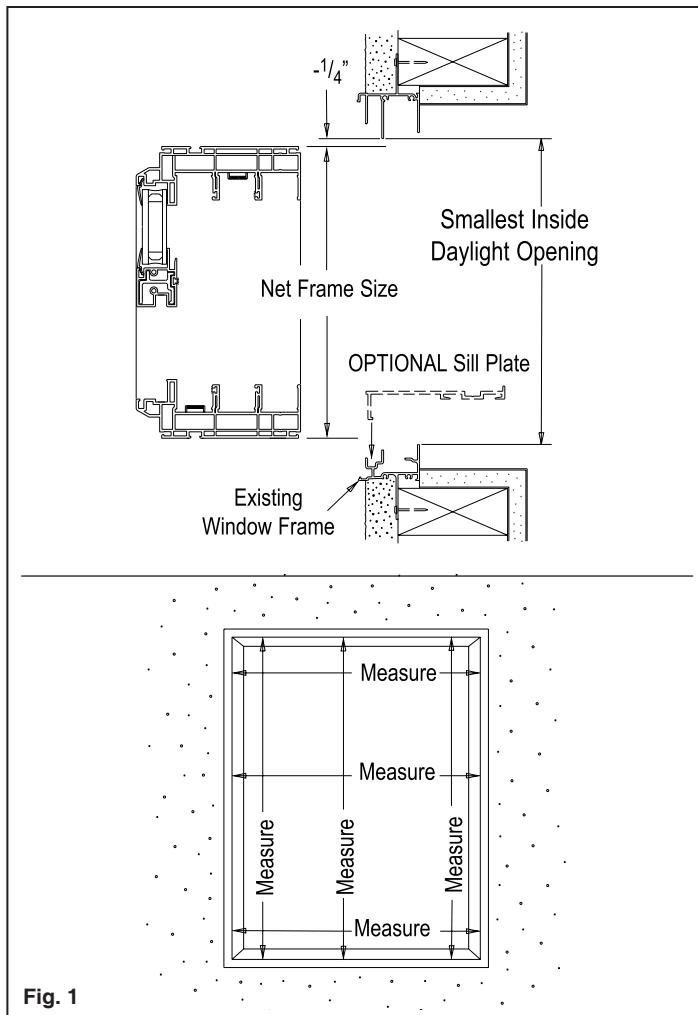
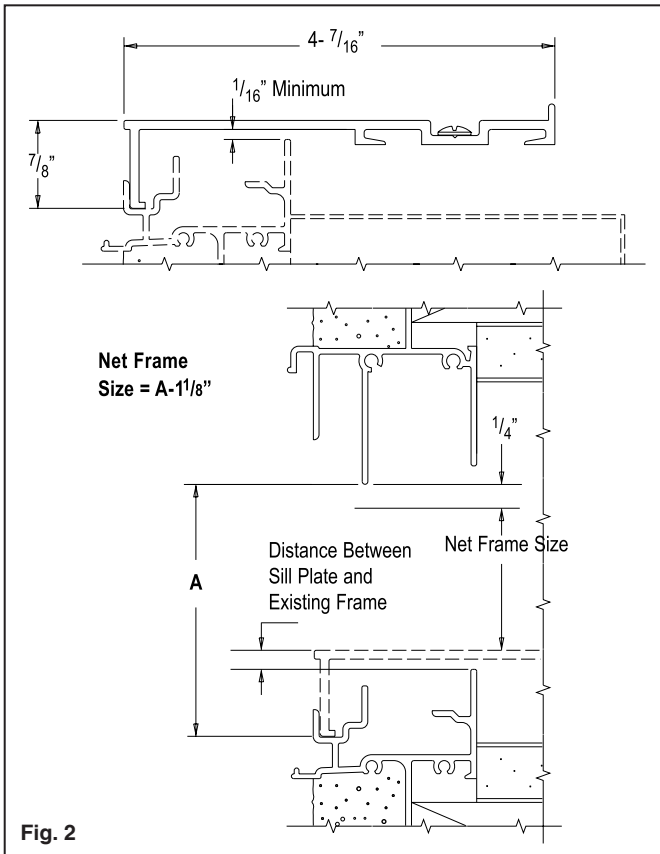

Fig. 1
Fig. 2
A. Measure the opening in your existing window. The narrowest measurements in your window opening, excluding the fixed and rolling panels, will be the "daylight opening". Measure existing daylight opening at the ends and the center. See Fig. 1. Deduct 1/4" from both the width and height of the daylight opening dimensions. A deduction for the distance between the top of the Sill Plate and the tallest wall on the existing sill is also needed to determine the "net frame size". See Fig. 2. Consider the best location for installing the Sill Plate in the existing sill and then take your measurements.